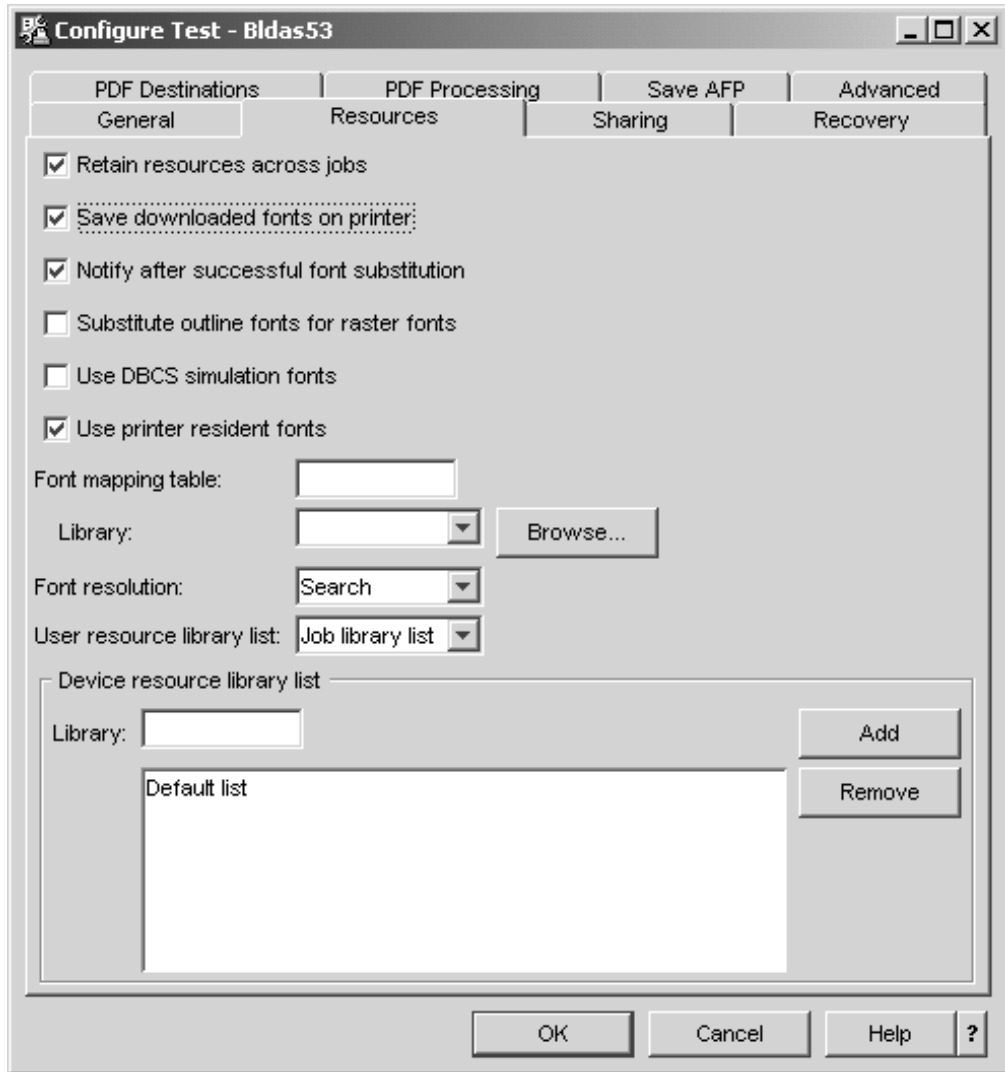

Figure 140. Enabling Font Capture
- f. On the **Resources** page, make sure that **Save downloaded fonts on printer** is selected as shown in Figure 140. For help, press F1 or click **Help**.